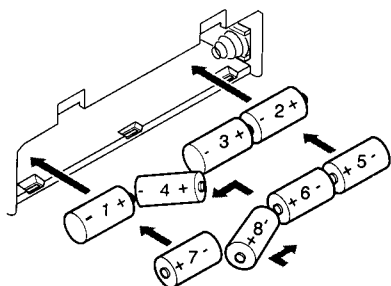

Fig.2
2. Install 8 "C" size batteries (not supplied). Refer to the polarity diagram on the back of the unit. Match the (+) and (-) marks on the diagram to the (+) and (-) marks on the batteries. (Fig.2)